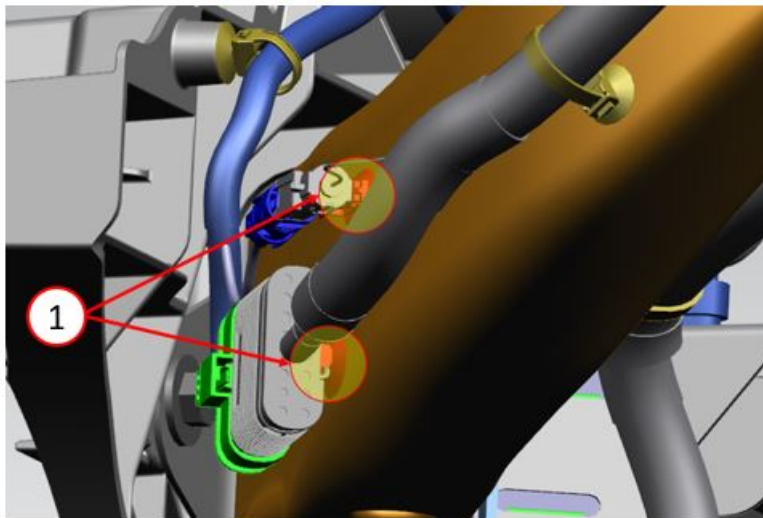

Fig. 5
9. Carefully unclip both connections from cross member and insert the loose pins from the jumper harness in to connector XY100A (Fig. 5) .